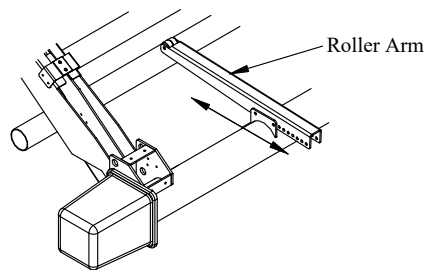

Figure 13: Roller arm adjustment.
26. **Open and Close** platform several times, checking adjustment of roller arm (Figure 13).